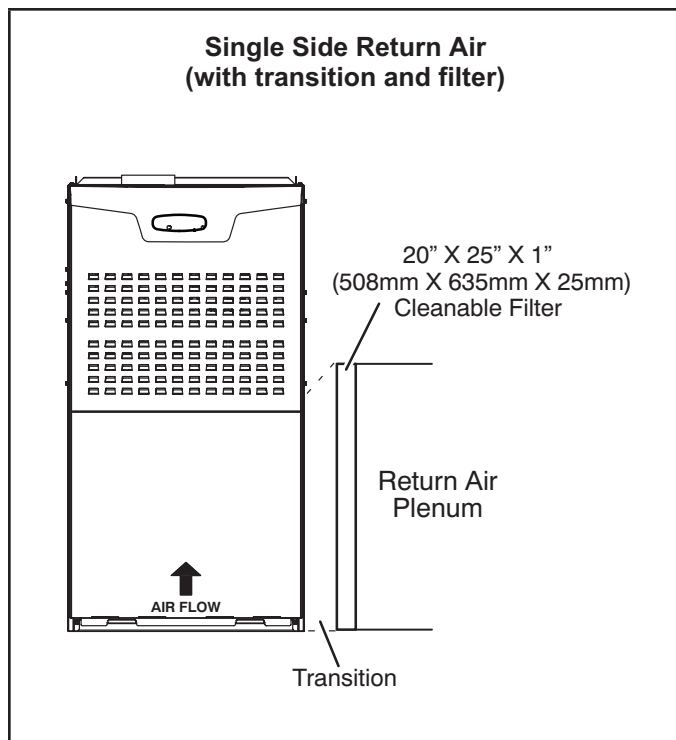

Figure 8
- 1 - Single side return air with optional return air base with transition that must accommodate required 20 x 25 x 1 in. (508 x 635 x 25 mm) air filter to maintain proper air velocity.) See Figure 8.